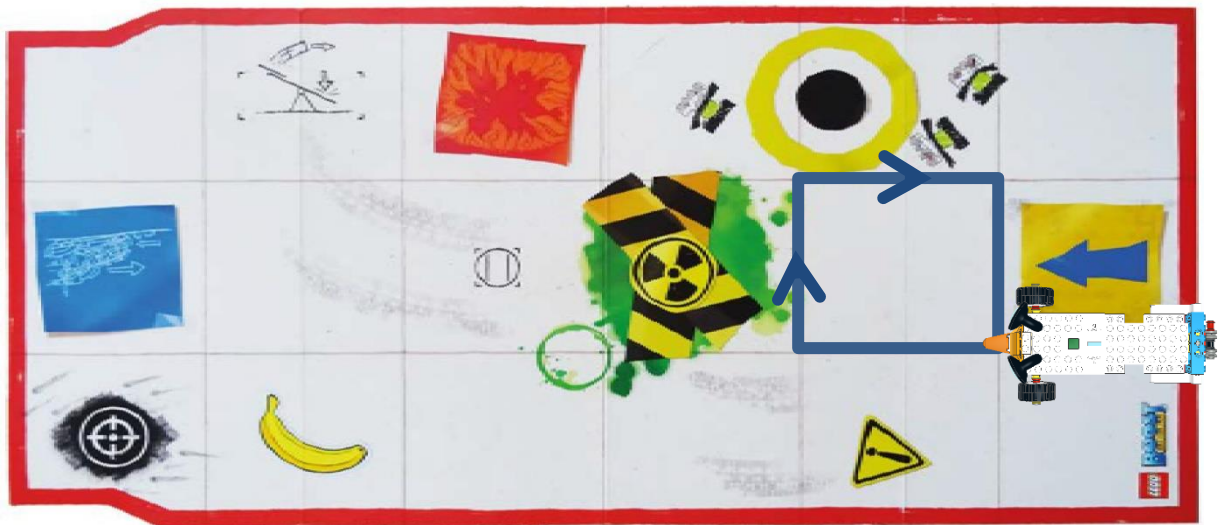

Figure 33: Square Example 1 - Boost Playmat
1. Using the Boost playmat drive in a square (Figure 33). Do not forget to use a loop command!